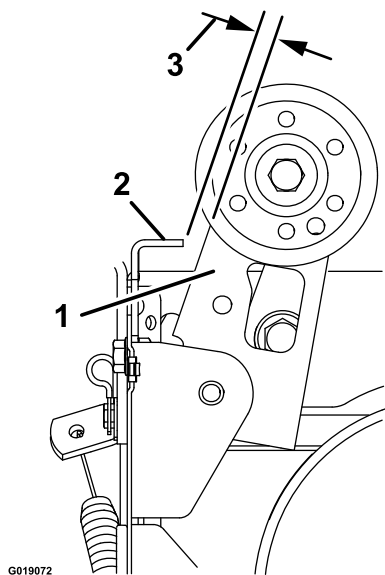

Figure 36
3. Adjust the turnbuckle until the gap between the broom clutch assembly and the tab is 3.2 mm (1/8 inch) (Figure 36).